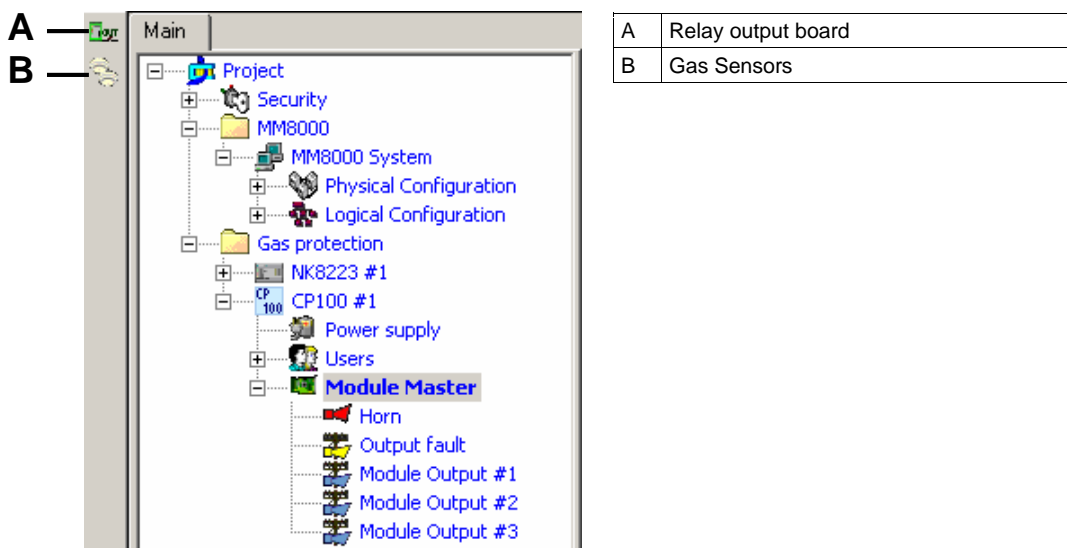

Fig. 12 Adding objects to a module
3. Move the mouse on the icons and, using the tooltip text, locate the object you want to add. See Fig. 12.